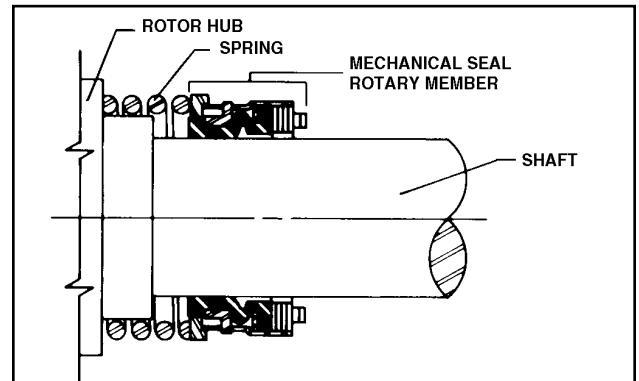

Figure 24
5. Place seal spring on shaft against rotor hub. Refer to Figure 24.